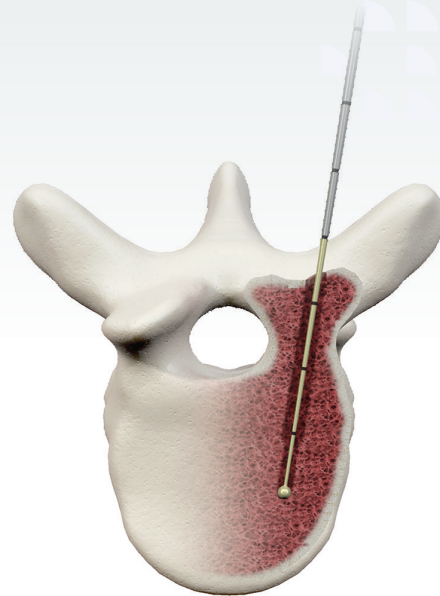

Figure 7
- A ball-tipped, sounding probe may be used to check pedicle integrity, trajectory, and depth (**Figure 7**).